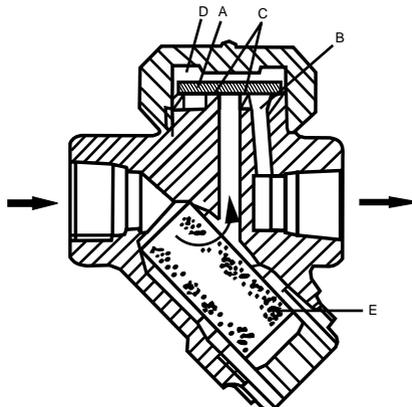

Figure 3 : Forbes Marshall Thermodynamic Trap
4.1. Operation of Forbes Marshall Thermodynamic Trap : [Refer Figure 3]